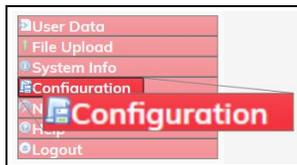

Figure 146: Configuration link
4. On the **Menu** list, click the **Configuration** link. Figure 146